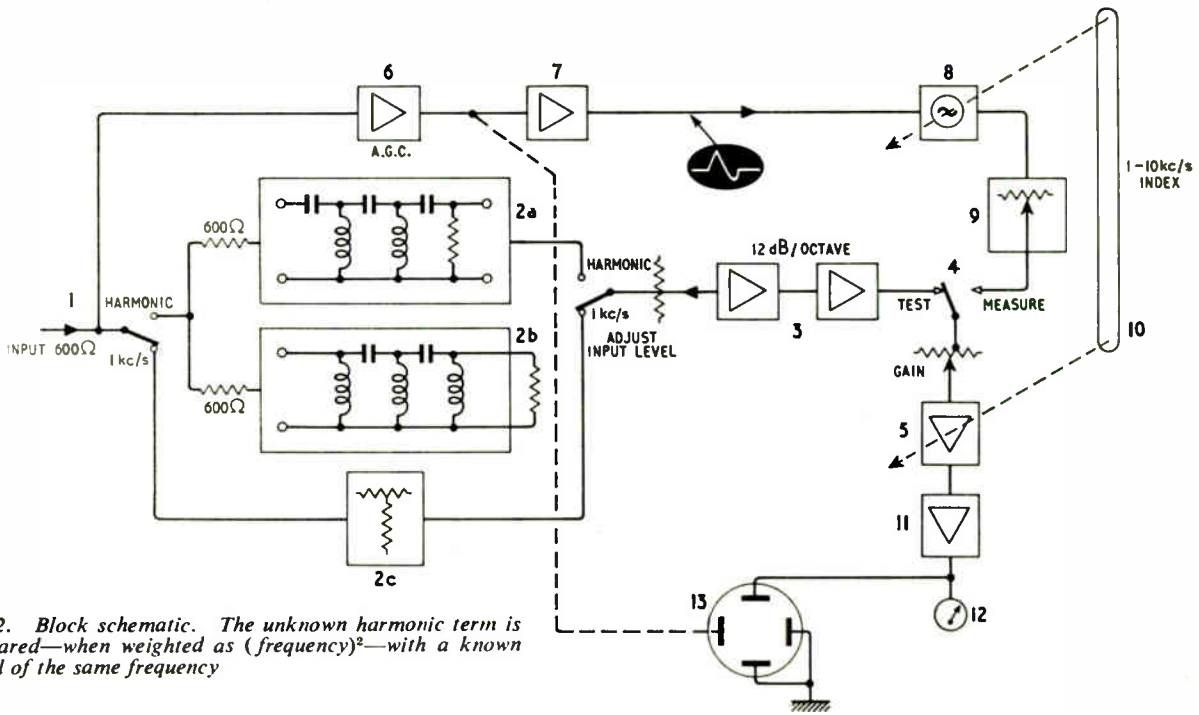

Fig. 2. Block schematic. The unknown harmonic term is compared—when weighted as  $(\text{frequency})^2$ —with a known signal of the same frequency
When the test-set is in use the linear performance of Fig. 6 is operative at all times,  $V_c$  being always very small. The adoption of the 'comparator' measurement-technique ensures that  $V_1$  never exceeds the (very small) amplitude of the 'weighted' harmonic under examination, irrespective of the  $Q$ -factor used. The 'weighting' amplifiers (3) in Fig. 2 raise an harmonic percentage  $p_n$  to a level  $n^2 p_n$  and thus prevent  $V_1$  from falling with the order ( $n$ ) of the harmonic term measured; in fact when a high-grade negative feedback amplifier is tested very near to its overload-point the quantity  $n^2 p_n$  tends to remain nearly constant irrespective of  $n$ . (In a well-adjusted push-pull amplifier, however, the even-order terms are depressed or missing.)